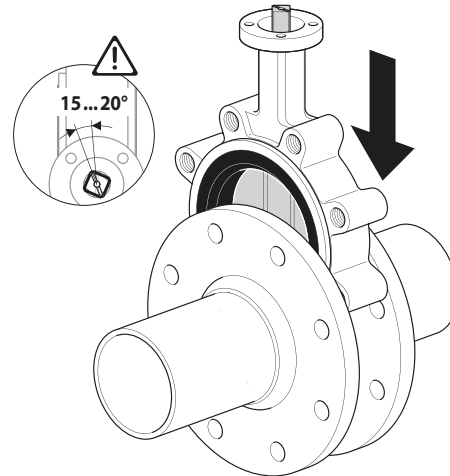

Fig. 22.
- Install the valve with the disc in the “Almost Closed” position (Fig. 22)